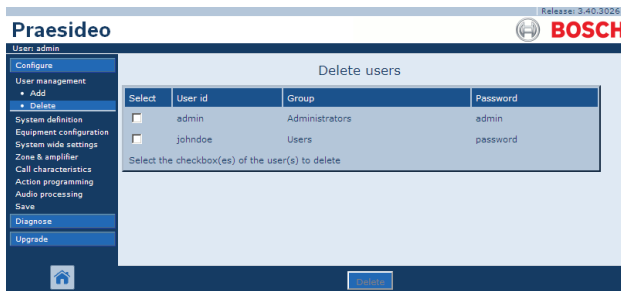

figure 41.5: Delete user, step 1
- 1 Go to *Configure > User management > Delete*. A screen similar to the one in figure 41.5 appears in the main frame of the web interface.